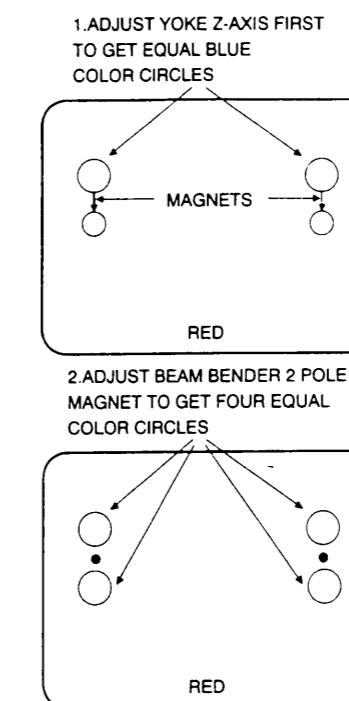

Fig 2.
- 8: Referring to fig. 2, perform the following two steps: